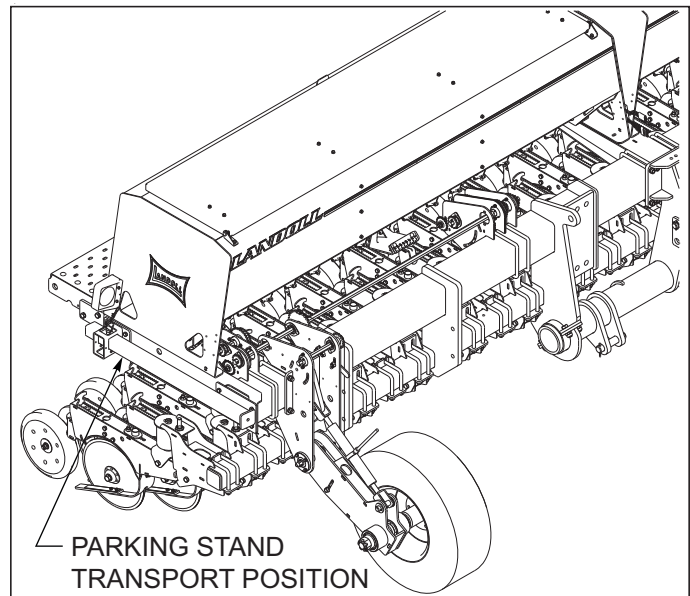
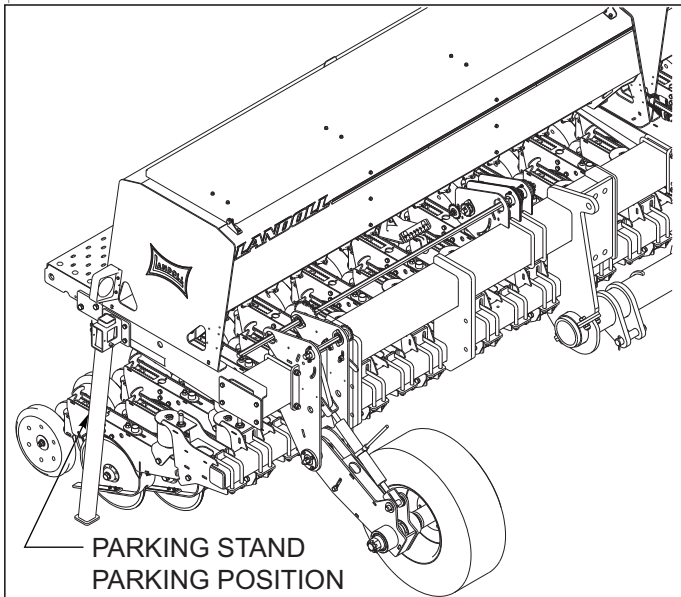

Figure 5-3: Parking Stand Transport Position
Figure 5-4: Parking Stand Parking Position
- c. Remove the parking stands from transport position See Figure 5-3 and install the parking stands in Storage position See Figure 5-4. If storing on soft ground, place board/plate under the stands for a wider footprint.